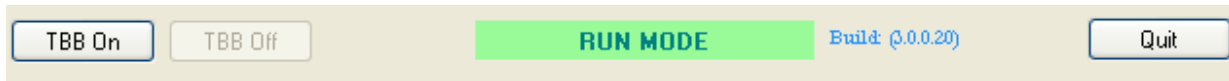

Figure 26. TBB Mode Enable/Disable
- If prototyping is desired, the Try-Before-Buy mode can be enabled or disabled through the TBB On or TBB Off buttons respectively. The operating mode will be displayed on the lower left area of the KITPF0100GUI as shown in Figure 26. The KITPF0100GUI version is shown in the lower right area of the graphical interface.